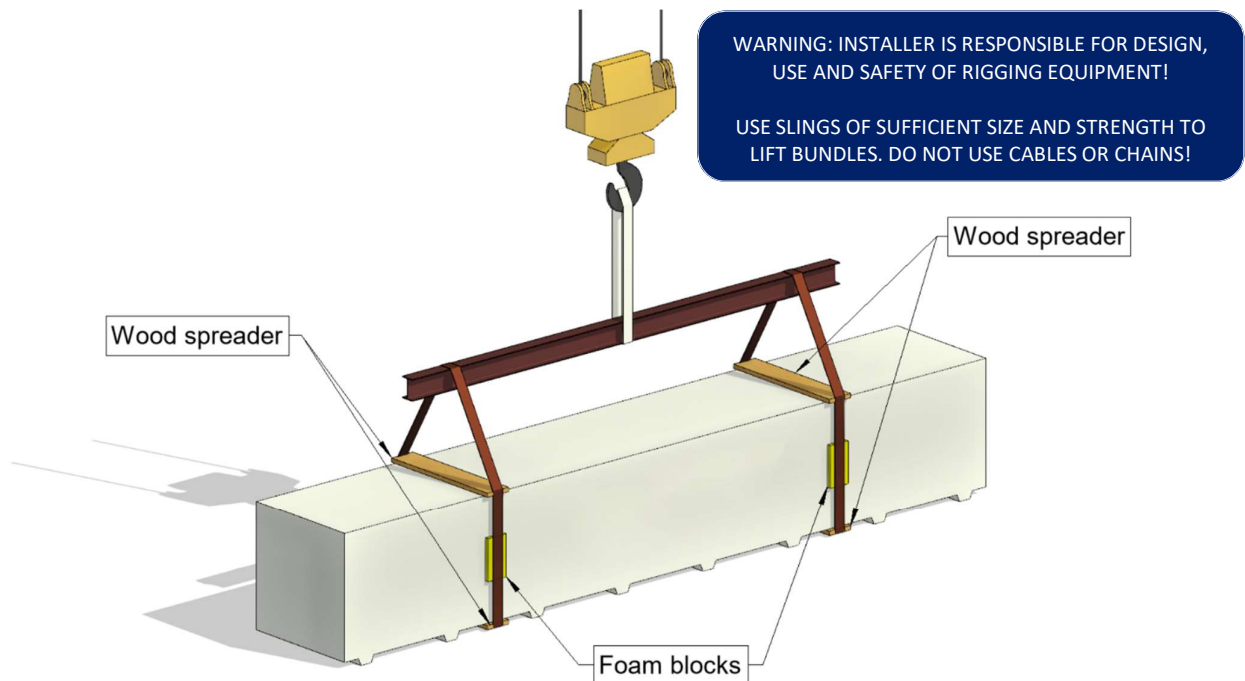

Fig. 4.12
4.11 Place foam blocks on sides of bundles at all sling locations as shown in figure 4.12.
4.12 Bundles under 1800 kg and less than 13 m may be lifted as shown in figure 4.12